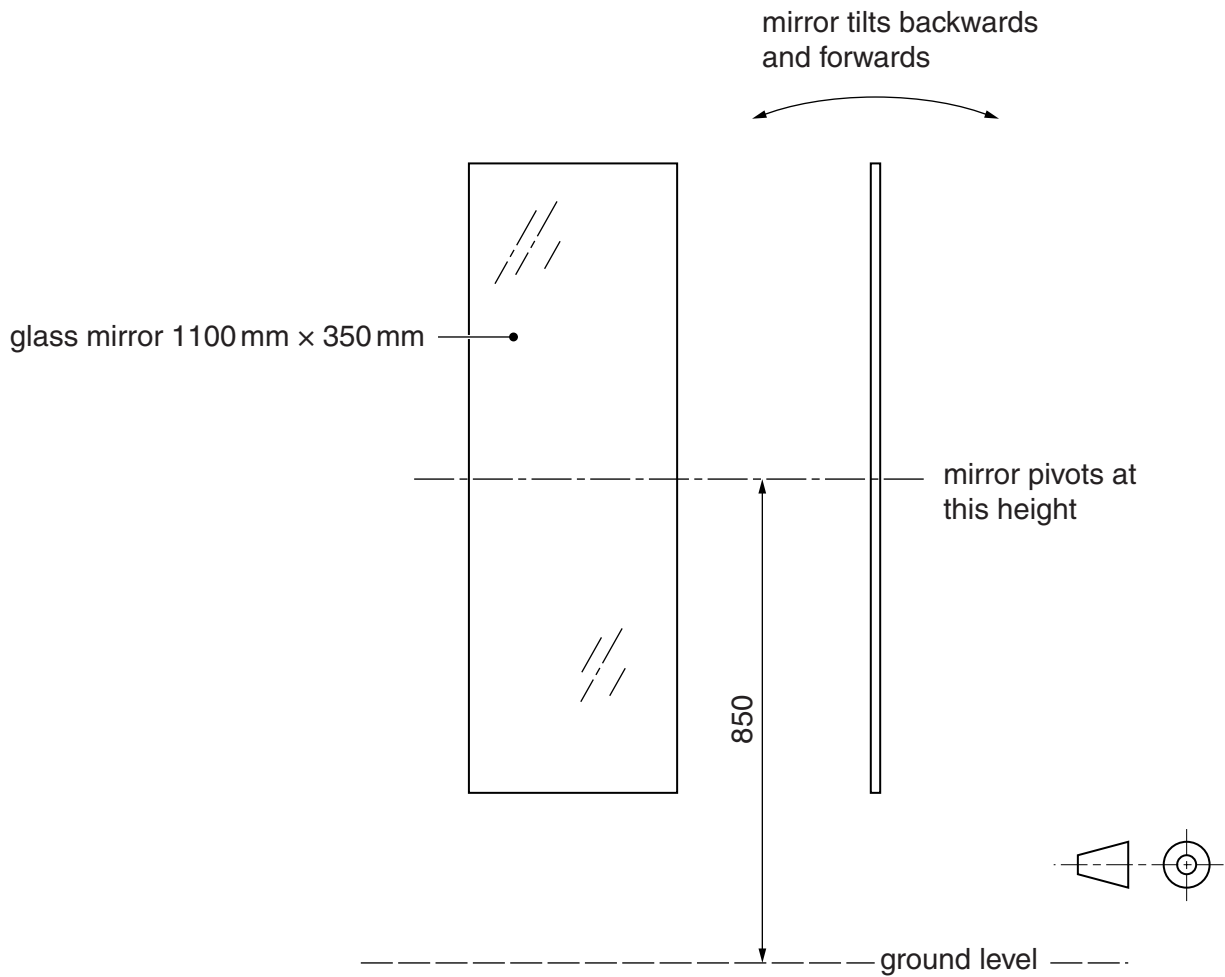

Fig. 10
- 9 Fig. 10 shows an incomplete design for a free standing mirror.